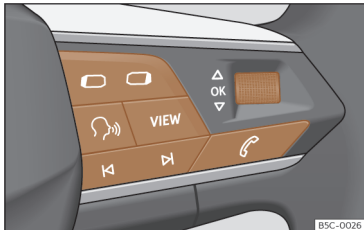

Fig. 60 Right side of the multifunction steering wheel: buttons for using the instrument cluster's menus and information displays (depending on versions).
As long as a priority 1 warning is active, it will not be possible to access any menu. Some warnings can be confirmed and hidden with the button **OK** of the multifunction steering wheel » **Fig. 60**.
- If a message or vehicle symbol is displayed, press the button **OK** » **Fig. 60**; if necessary, several times.
- To change menus, use buttons **◀** or **▶** » **Fig. 60**.
- To open the menu or the information displayed, press the button **OK** » **Fig. 60** or wait
- In the menu displayed, turn the right thumbwheel of the multifunction steering wheel » **Fig. 60** until the desired option of the menu is highlighted. The option appears framed.
- Press the button **OK** » **Fig. 60** to make the required modifications. A mark indicates that the system or function is activated.
Press the button **◀** or **▶** » **Fig. 60**.